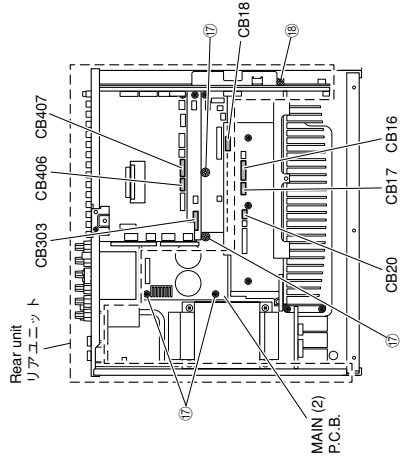

Fig. 7
- b. Remove 4 screws (17), 1 screw (18) and 1 screw (19). (Fig. 7)
- c. Remove CB16-18, CB20, CB303, CB406 and CB407. (Fig. 7)
- d. Remove the rear unit and MAIN (2) P.C.B.. (Fig. 7)
- b. 17のネジ4本、18のネジ1本、19のネジ1本を外します。(Fig. 7)